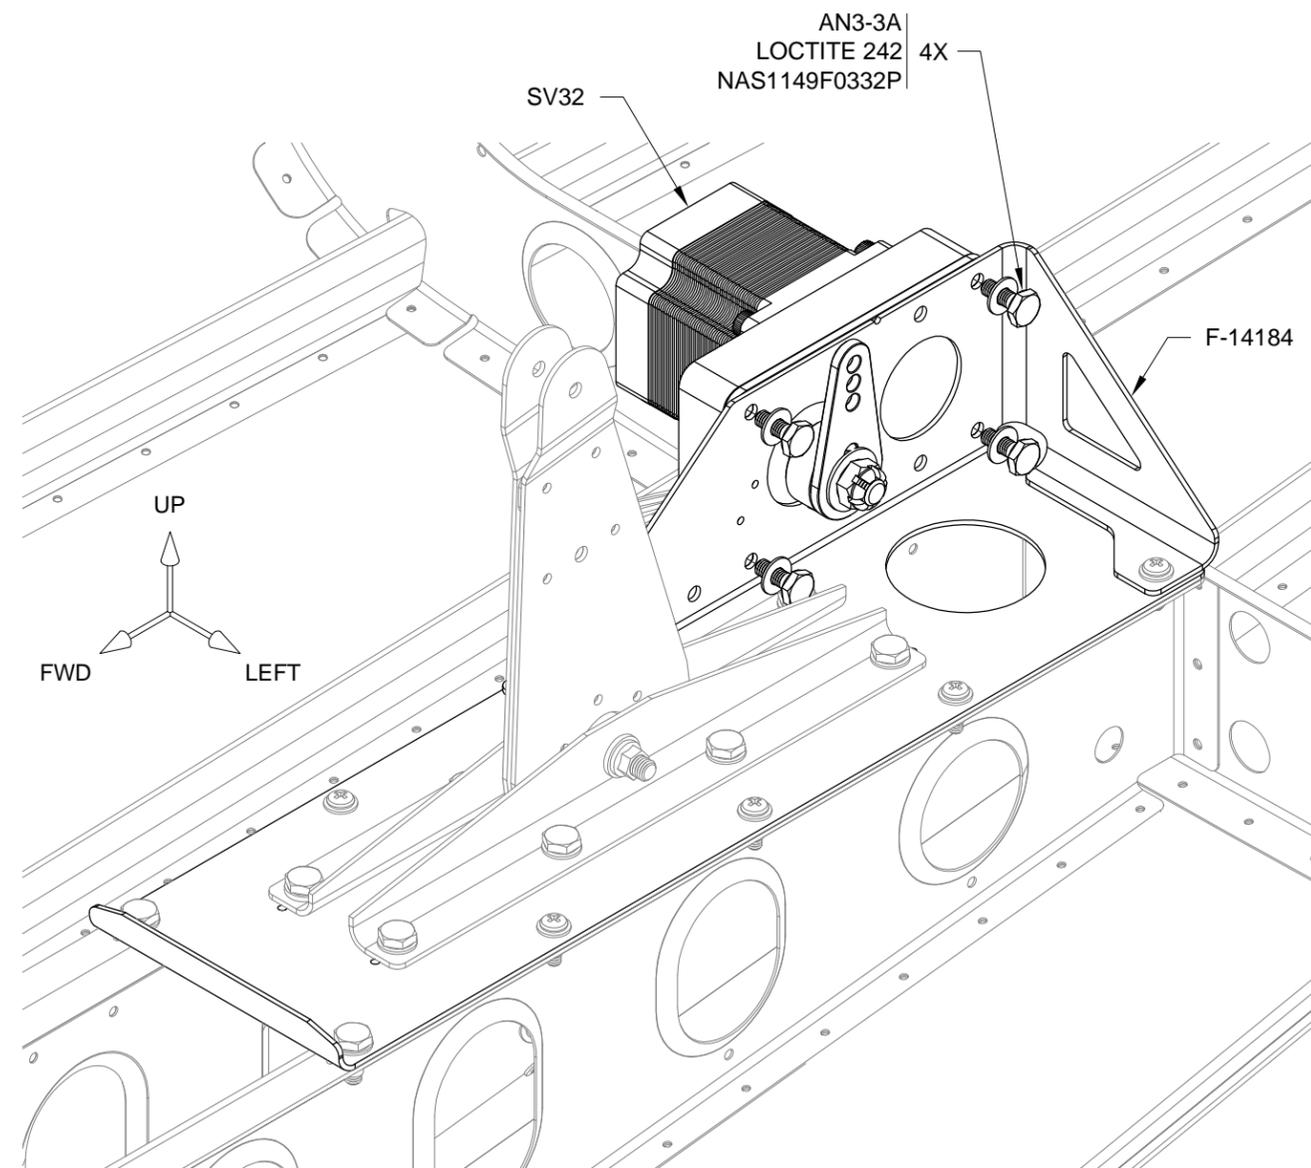

FIGURE 3: INSTALL PITCH SERVO
Step 6: In the aft fuselage, attach the SV32 servo to the F-14184 Pitch Servo Bracket as shown in Figure 3. Apply Loctite 242 or an equivalent medium strength threadlocker to the bolt threads before insertion.